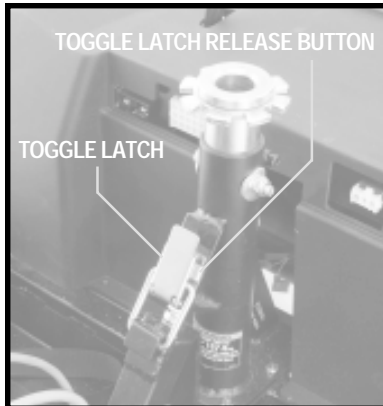

Figure 20. Toggle Latch (Latched)
1. Push in the toggle latch release button while pulling back the toggle latch. See figures 20 and 21.